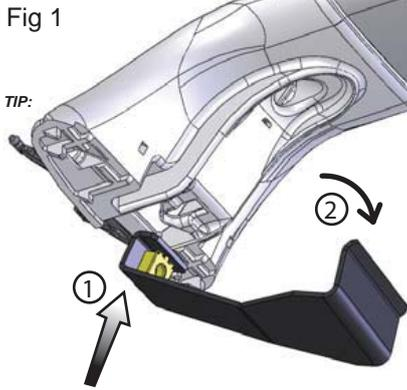

Fig 1
With the cross-bars off/away from the vehicle, Feed the 'neck' of the Strap Bracket through the designated cavity in the End Support. (Fig. 1) When Strap neck has been pushed through (1), rotate strap downwards (2) until the Mount Holes in the End Support and the Cage Nut inside the strap are aligned.